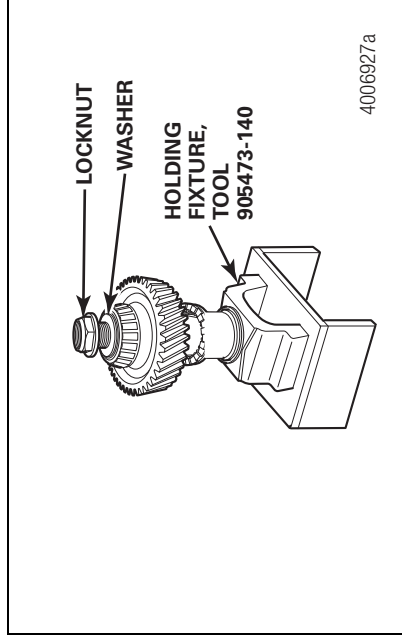

Figure 6.5
11. Install the washer and the locknut onto the shaft. Tighten the locknut to 700-900 lb-ft (949-1220 N•m). Figure 6.5. **⚠**